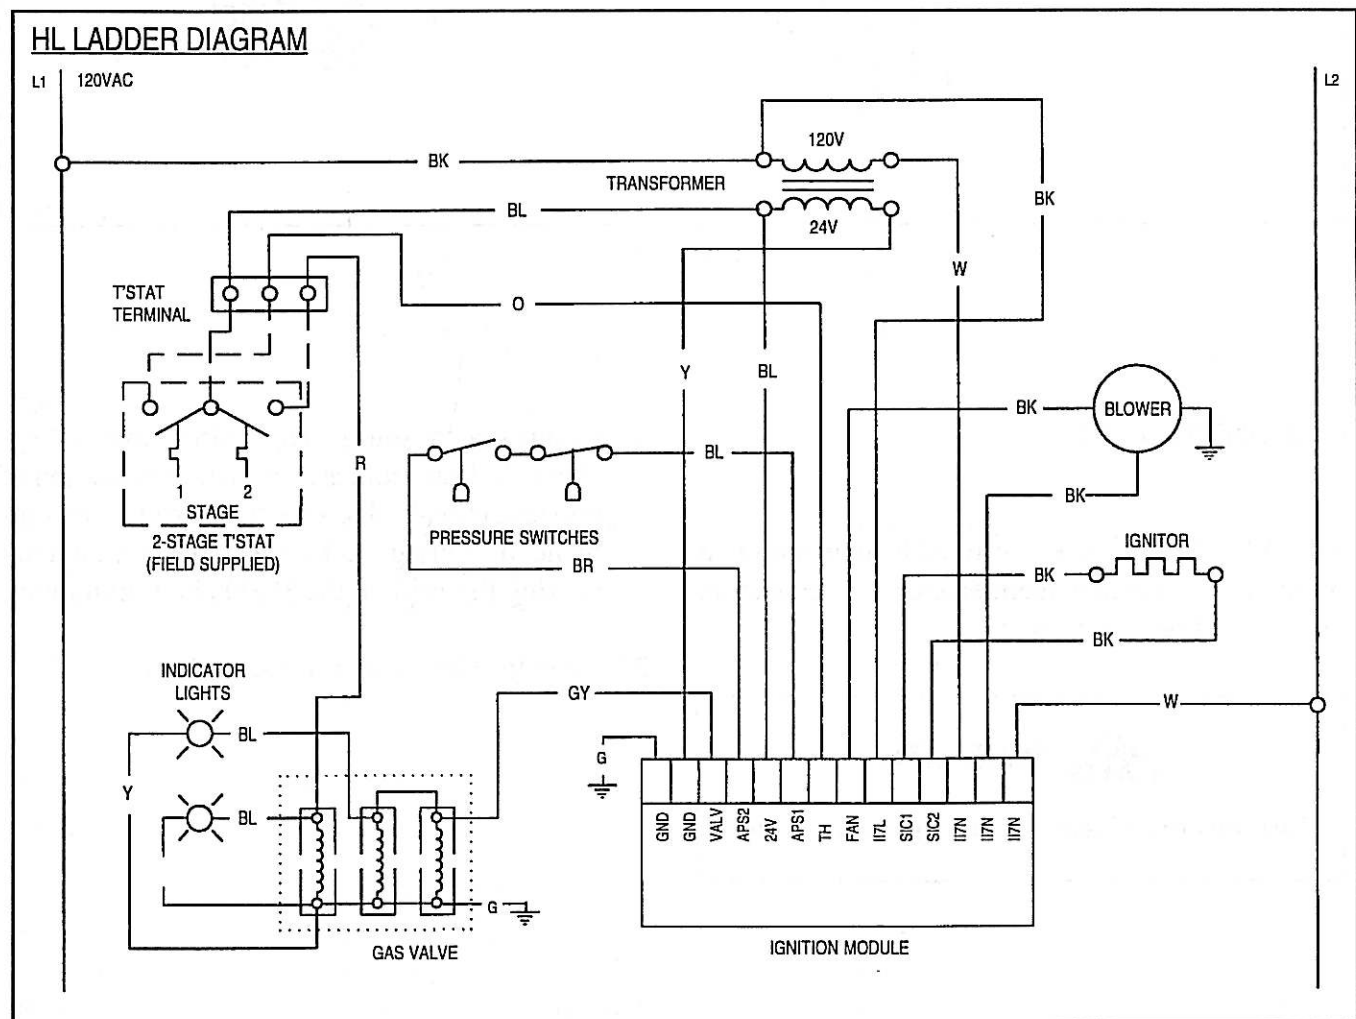

Figure 3-3
• Starting Circuit (Figures 3-3 and 3-4)